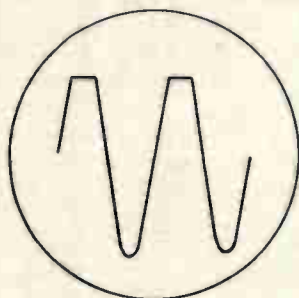

FIGURE 2
2. A symmetrical sine wave should be obtained on the screen of the Oscilloscope. If the wave form is distorted as in Figure 2, the stage may be overloaded (improper bias on), the tube may not have the proper bias caused by a defective cathode resistor or a leaky cathode by-pass condenser. Figure 3 shows the effect of too high a bias. A combination of Figures 2 and 3 would indicate the overloading of the tube.